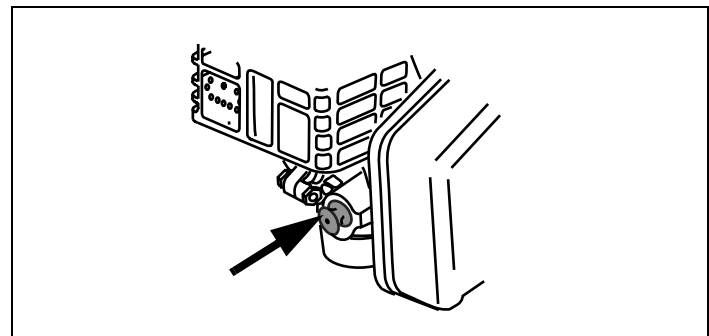

Figure 29. OH195EA/OH195EP Engine Primer Bulb
3. When starting a cold engine, push primer bulb firmly with your thumb 3 times, allowing primer bulb to return completely to original position between pushes. See Figure 29.